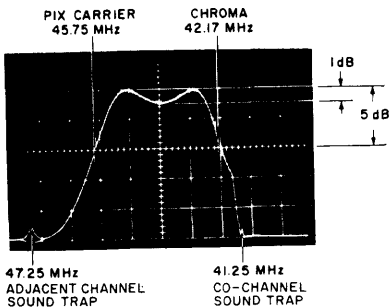

Fig. 7b - Color TV-IF amplifier with associated waveform and test circuit.
4. The overall response curve should conform to the waveform shown in Fig. 7b.